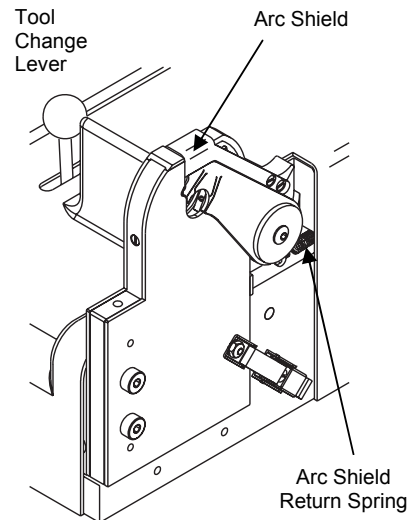

Figure 30 *Removing the Arc Shield Return Spring from the Movable Plate Assembly*
1. Unhook the arc shield return spring that is holding the arc shield assembly in place. See Figure 30.